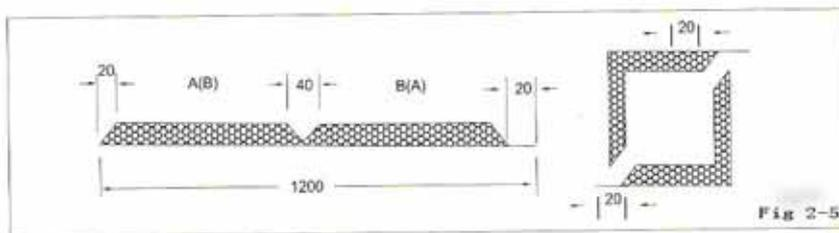

Fig 2-5
c. Technique (3): The length of 2 sides  $A+B \leq 1100\text{mm}$ , duct can be produced by two "L" shape panel, lengthways cutting. (Fig 2-5)